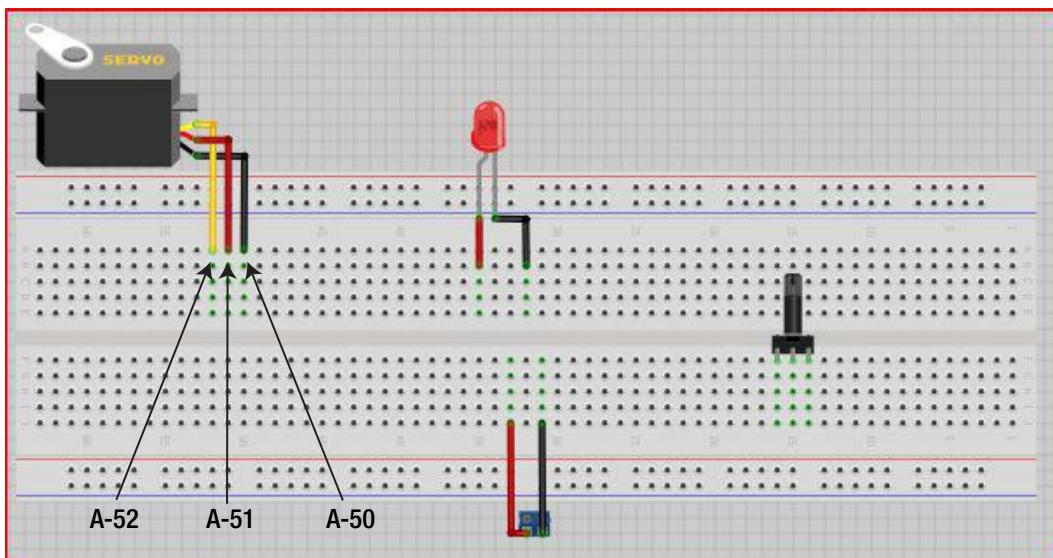

Figure 23-6. Attach the servo to the breadboard
5. Now connect the servo to the breadboard. Be certain the signal wire (white, yellow, or orange) is inserted into A-52, the power wire (red) into A-51, and the ground wire (black) into A-50. Figure 23-6 illustrates this process.